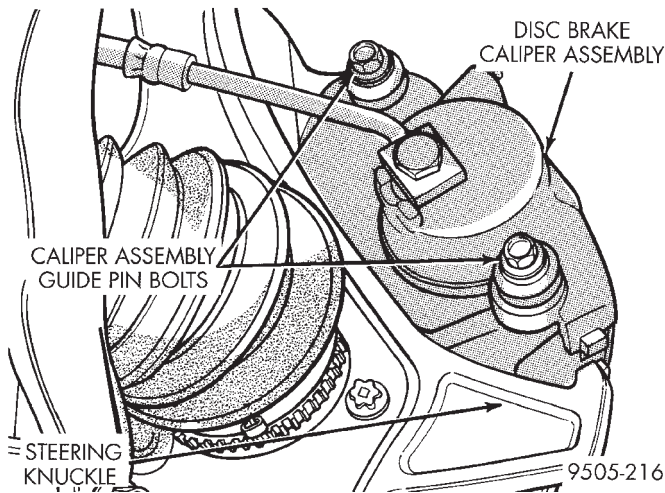

Fig. 63 Brake Caliper Attaching Bolts
(1) Raise vehicle on jackstands or centered on a frame contact type hoist. See Hoisting in the Lubrication and Maintenance section of this manual, for the required lifting procedure to be used for this vehicle.
(2) Remove the front wheel and tire assembly from the vehicle.
(3) Remove front disc brake caliper to steering knuckle attaching bolts (Fig. 63).
(5) Install disc brake caliper assembly to steering knuckle attaching bolts (Fig. 63) and torque to 31 N·m (23 ft. lbs.).
(6) Install front wheel and tire assembly. Install front wheel lug nuts and torque to 129 N·m (95 ft.lbs.).
(7) Lower vehicle.